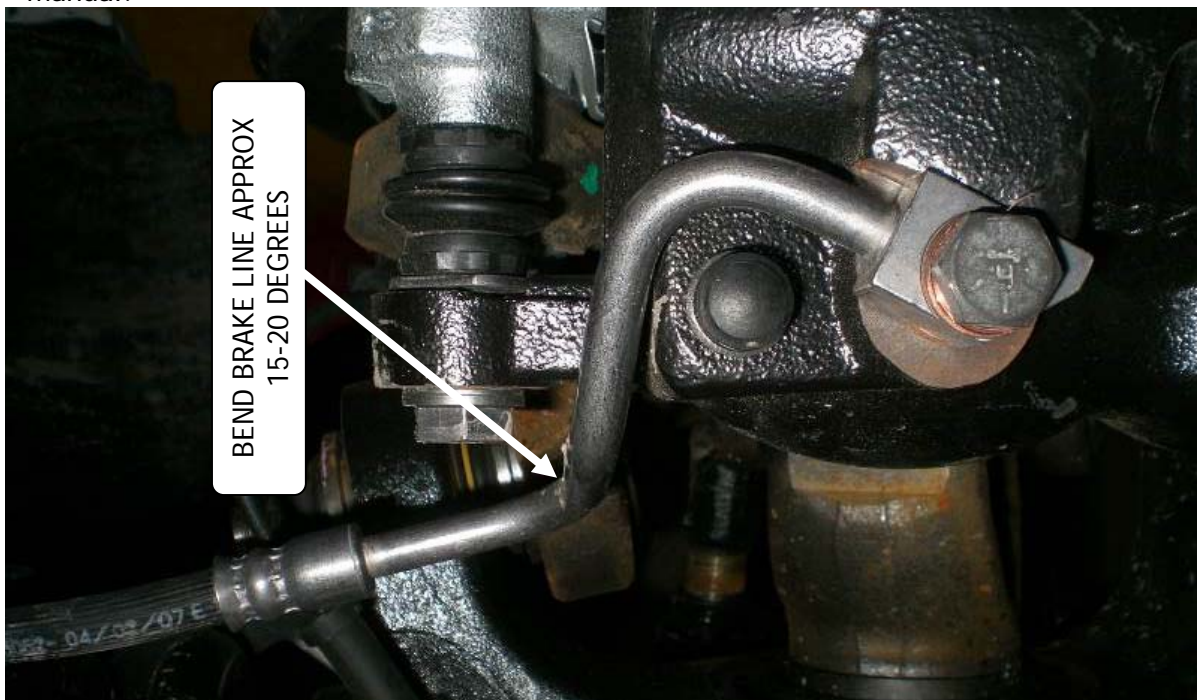
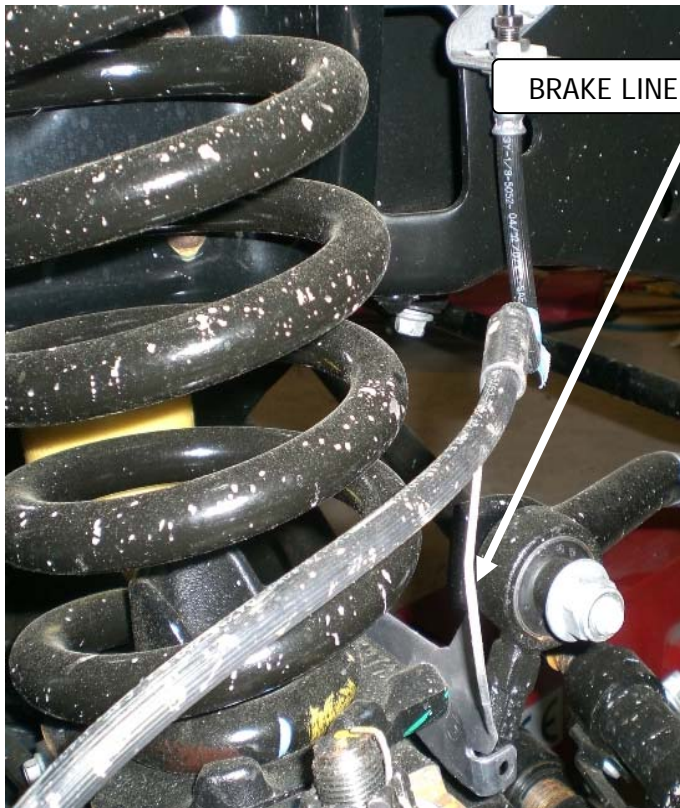
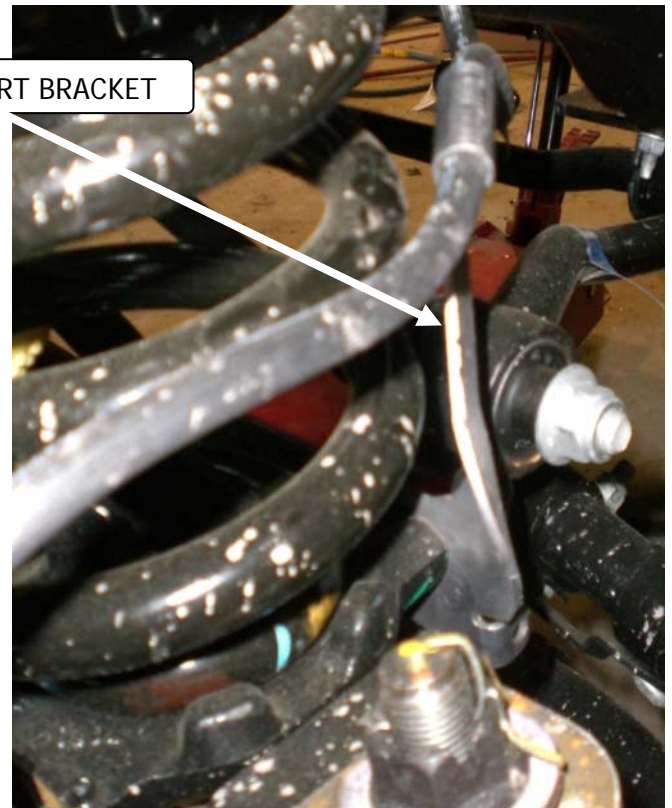

Figure 1
Figure 2
Figure 3
(Refer to Figure 1, Figure 2, and Figure 3)
- a) Using a tube bender, bend the brake line at the brake calliper approximately 15 - 20 degrees away from the wheel. (Figure 1).
- b) Bend the brake line support bracket towards the coil spring, leaving a small amount of room between the coil spring and bracket without touching (Figure 2) (Figure 3).